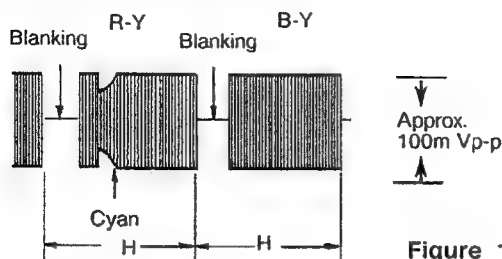

Figure 1.
3. Adjust LM01 for the flat level of amplitude in each colour bar waveform on the scope. (See figure 1.)